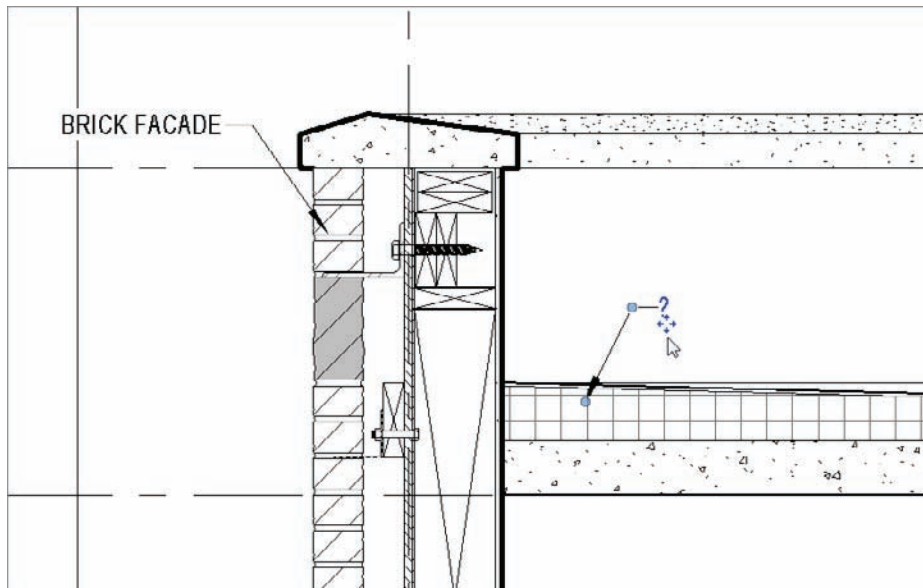

FIGURE 12.55 Adding a material tag to the insulation
2. Place a tag, as shown in Figure 12.55, on the tapered roof insulation. There is nothing but a question mark—this means Revit doesn't yet have a description for the material.